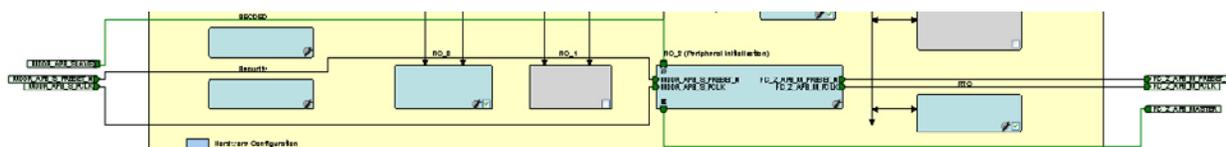

Figure 1-7 • FIC_2 Ports
3. Click **OK** to save your settings. This exposes the FIC_2 configuration ports (Clock, Reset, and APB bus interfaces), as shown in Figure 1-7.